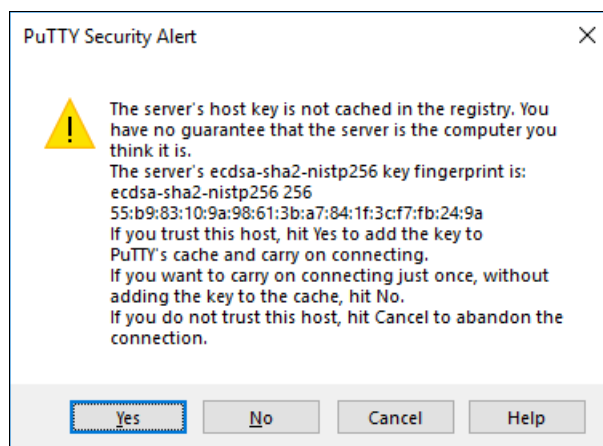

Figure B-14 Confirming the security alert
11. If a PuTTY Security Alert opens as shown in Figure B-14, confirm it by clicking **Yes**.